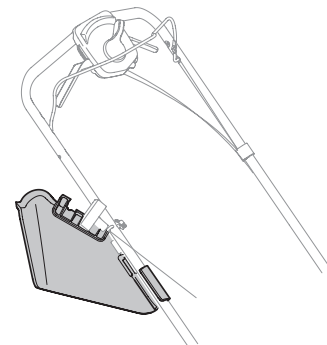

Figure 2-9
3. When not using, you may secure side discharge chute to handle as shown in Figure 2-9.